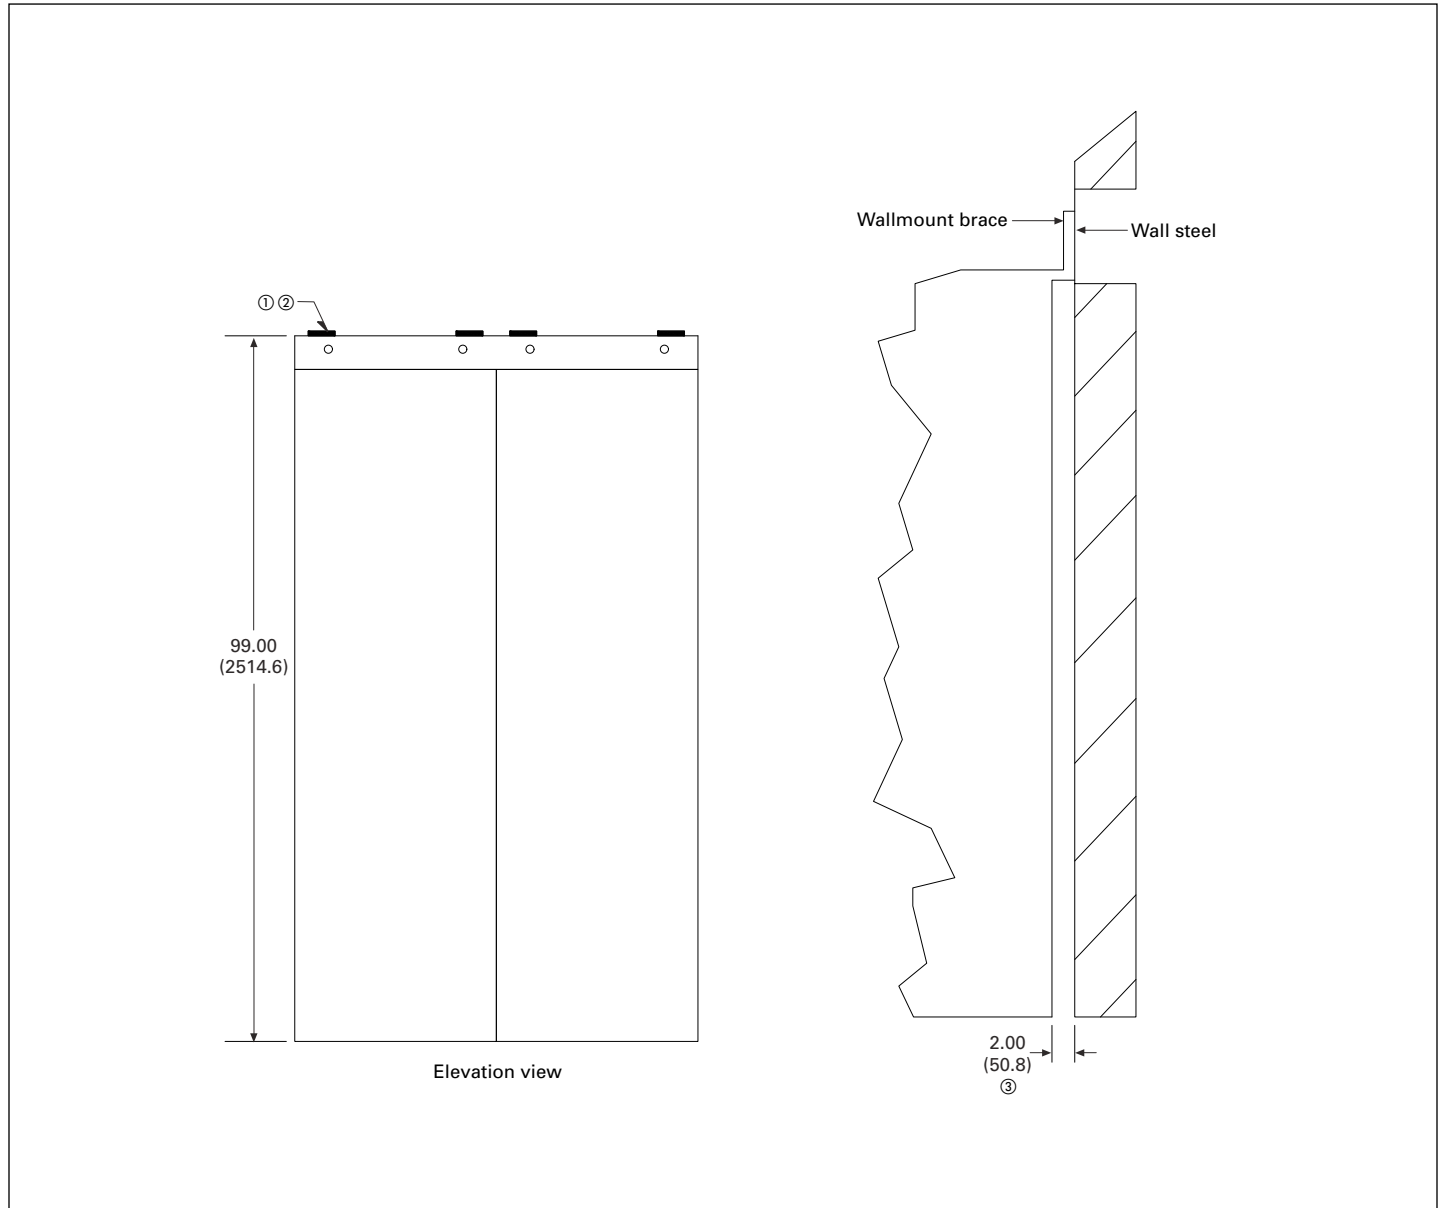

Figure 3. Welding of indoor structures to imbedded wall steel—front-access Magnum switchgear
- ① 0.19 inches (4.8 mm) weld, 4.00 inches (101.6 mm) long at two places on front of each section starting 0.50 inches (12.7 mm) from each edge of structure. See **Figure 3** for front access wall brace weld instructions.
- ② Internal bracket on each end of line up to be plug welded to floor steel.
- ③ For nuclear installations, weld per AWS D1.1, alternatively, welding procedures and personnel qualifications may be performed IAW ASME BPVC Section IX and the inspections be performed IAW AWS D1.1, and/or D1.3 and/or D9.1.
- ④ 0.19 inches (4.8 mm) weld, 4.00 inches (101.6 mm) long at two places on rear of each section starting 0.50 inches (12.7 mm) from each edge of structure if wallmount brace is not being used.
- ⑤ Sufficient clear space, between the wall and the rear of the switchgear, should be provided to allow for proper attachment of the switchgear to the pad.